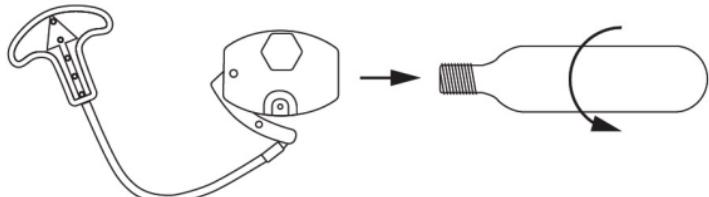

FIGURE 13 MD3072 E1 - REMOVE THE CYLINDER
3. Remove the cylinder by rotating counterclockwise and then pull out (MD3072 E1 see Fig. 13 and 13A for MD3810 E1). **Discard the used cylinder.**